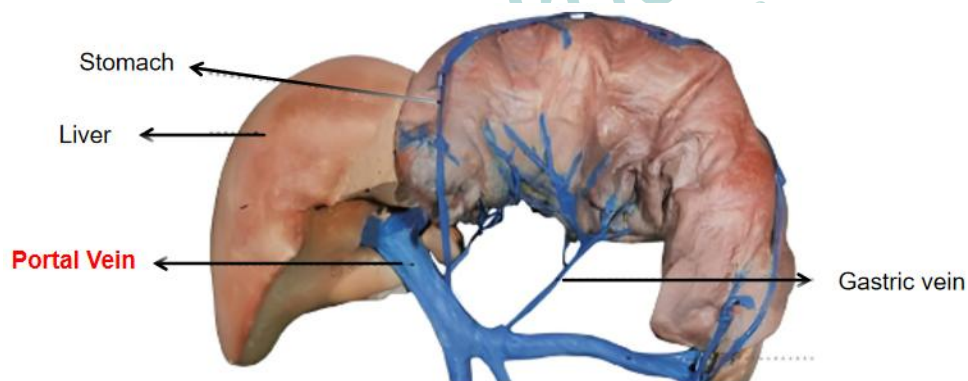

Figure 2. Schematic diagram of hepatic portal vein anatomy
- b. Turn on the peristaltic pump and slowly infuse the Pre-perfusion Solution For Rat Hepatic Parenchymal Cells until the liver becomes fully distended. At this time, use Ophthalmic Scissors 2 to cut open the hepatic portal vein for drainage (marked in Figure 2), maintaining a perfusion rate at 20 mL/min until all blood in the liver are completely drained and the liver tissue turns waxy yellow(the perfusion process is shown in Figure 3).
- f. Gently push the syringe to allow the Pre-perfusion Solution into the rat liver tissue. Use a timer to start the timing, control the infusion rate, and maintain the flow rate at around 20 mL/min. When the liver is full, use Ophthalmic Scissors 2 to cut open the hepatic portal vein for drainage (marked in Figure 2). Keep perfusion until the blood in the liver are completely drained and the liver tissue turns waxy yellow (the perfusion process is shown in Figure 3).